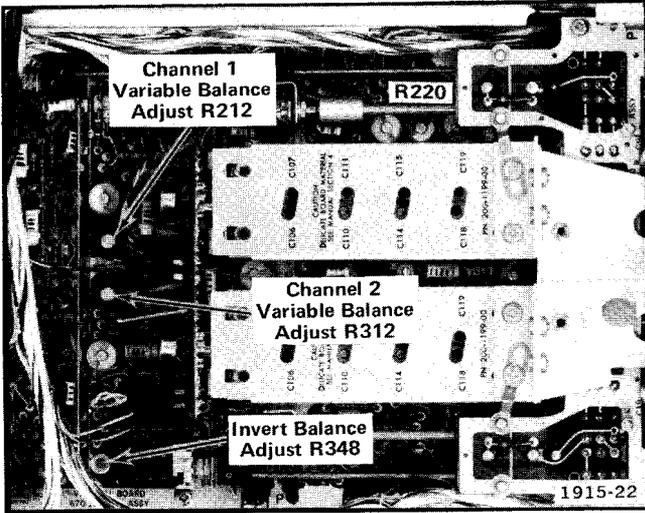

Fig. 5-4. Location of Channel 1 and 2 balance adjustments.
- h. ADJUST—Variable Balance adjust R312 (see Fig. 5-4) for minimum trace shift when rotating the CH 2 VAR VOLTS/DIV control.
m. ADJUST—Invert Balance adjustment R348 (see Fig. 5-4) for minimum trace shift when inverting the Channel 2 display.